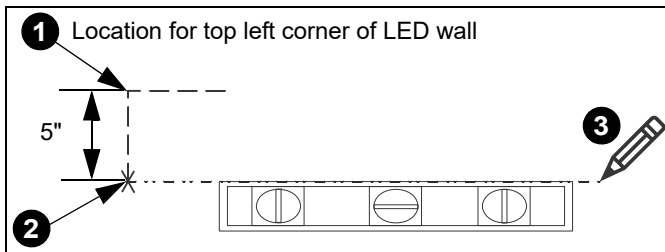
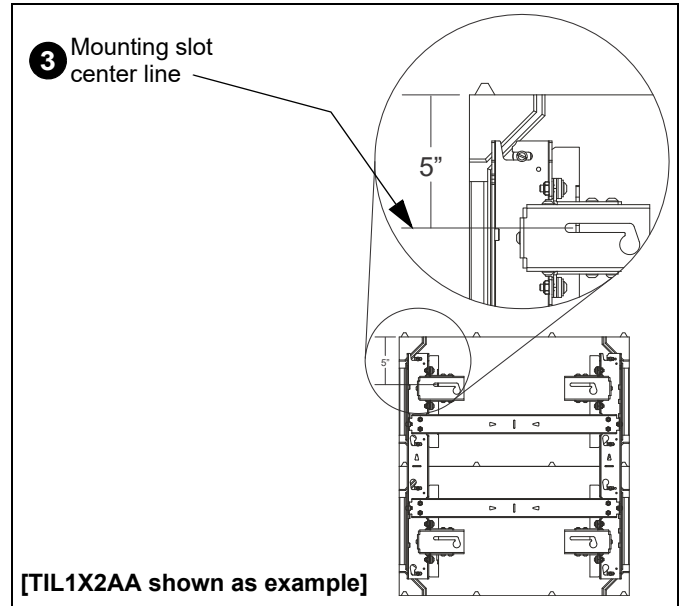

Figure 1
Figure 2
IMPORTANT ! : The top of the LED housing is 5" above the center line of the mounting slots. (See Figure 1)
1. Determine location for the **top left** corner of the LED wall. (See Figure 1)
2. Make a mark 5" below the planned top left corner of the LED wall. (See Figure 1)
NOTE: This line will indicate the center line of the mounting slots for the top mount(s) in the LED wall. (See Figure 1) and (See Figure 2)